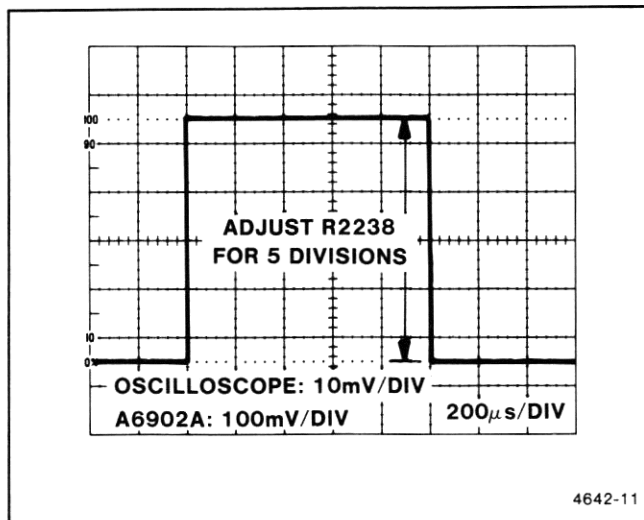

Figure 5-2. Gain adjustment - R2238 (R2738).
- e. ADJUST - R2238 (R2738) for an exact five-division display referenced to the trailing portion of the square wave (see Figure 5-2).